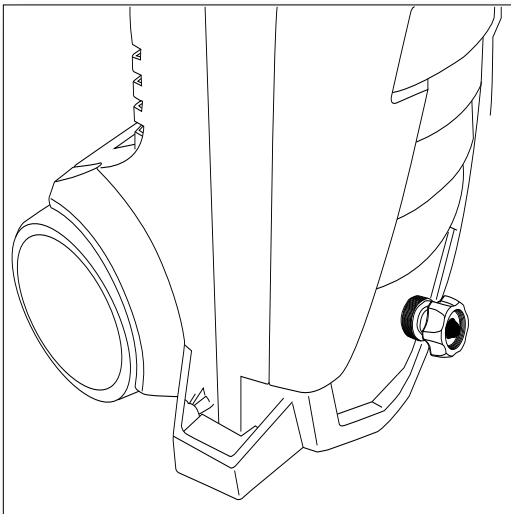

Fig. 17
- Replace the washer filter and attach garden hose to the blue collar. **(Fig. 17 & 18)**